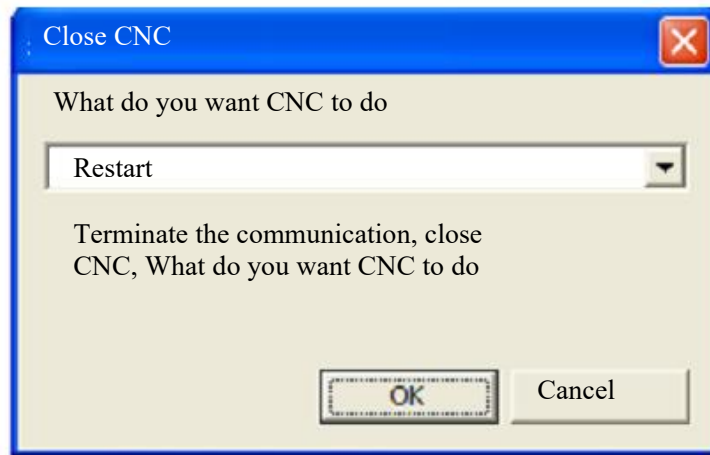

Fig. 6.4
6.2.2 Click the drop-down menu to choose "shut down" or "restart", and then click "OK", as shown in Fig.6.4.